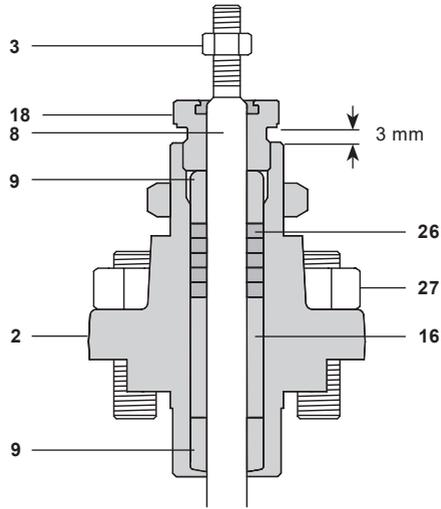

Fig. 10
4.5 Replacement of graphite gland packing (reference Figure 10)
- Remove the lock-nut (3) and unscrew the gland nut (18)
- Remove the plug and stem (8)
- Remove the gland nut (18)
- **Standard Bonnet (Fig. 10)**